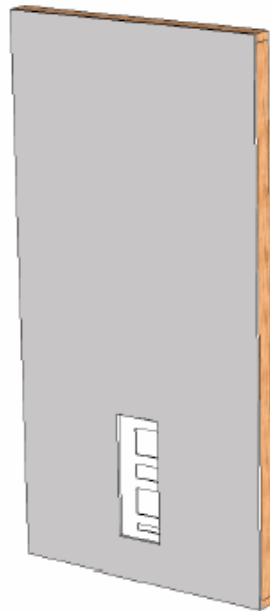

FIGURE 3
- c. **The front edges of the IWPBB are chamfered to allow the mudding, taping and sanding of all four edges flush with the drywall. See Figure 3.**